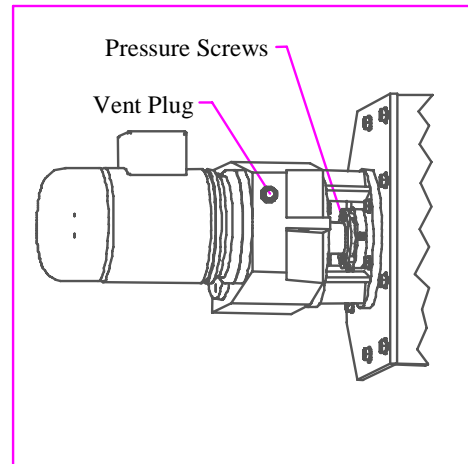

Figure 2.4c-Tightening the Pressure Screws
8. Tighten the pressure screws until the gap between the packing box and the gland is only about 7mm wide. Tighten the screws alternately and check the gap is even after the screws are tightened (see Fig 2.4c).